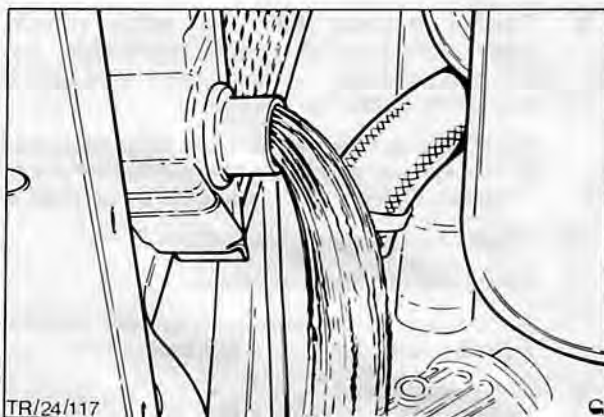

Fig. 37. Remove bottom hose and allow radiator to drain
3. Remove bottom hose from radiator and allow coolant to drain into a clean container, Fig. 37.